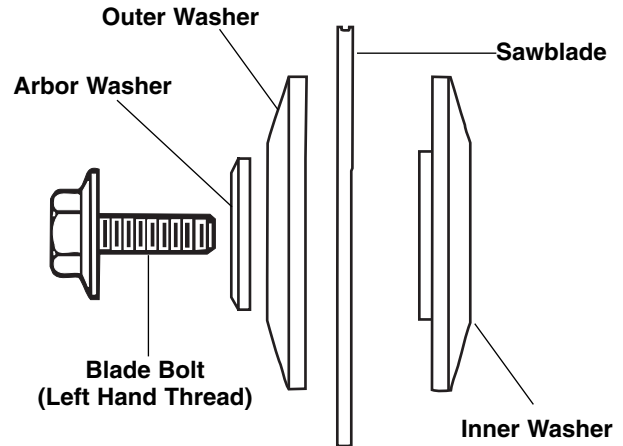

Figure 2. Blade Hardware
5. Remove the blade bolt, arbor washer, outer washer and the blade. Inner washer does not need to be removed (Figure 2).